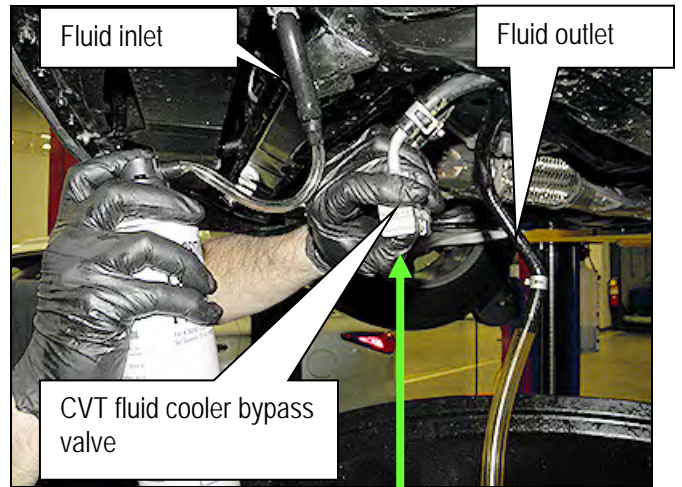

Figure 3E
8. Insert the "extension adapter hose", from a can of Cooler Cleaner (Nissan P/N 999MP-AM006P), into one or the other of the disconnected CVT fluid cooler hoses (Figure 3E).
- Block the CVT fluid cooler bypass valve (Figure 3E) with thumb.
14. Now reverse the direction that the hoses are being flushed (Figure 3E) and repeat steps 8 through 12 twice (total of 3 times).